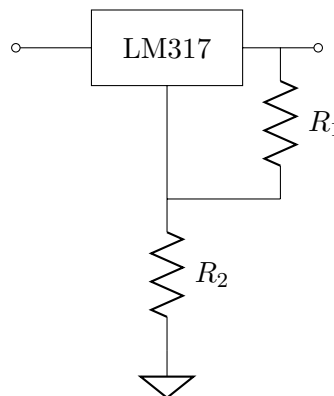

Figure 2: LM317 linear regulator circuit.
- b) For the circuit of Fig. 2, with sing an input voltage of 9V and $R_1=510\ \Omega$, what's the value of R_2 such that the output voltage is 5 V. What is the efficiency of the regulator in this case?